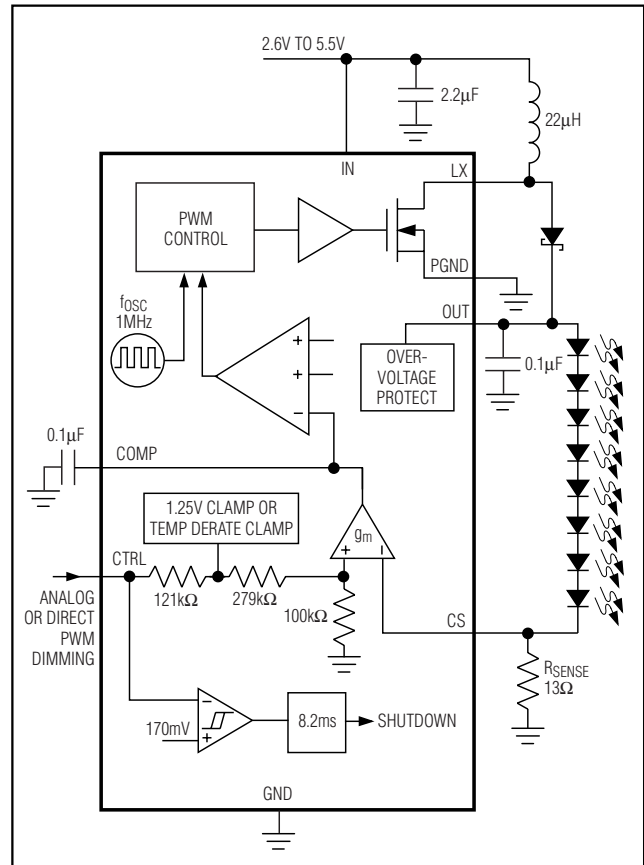

Figure 1. Functional Diagram and Typical Application Circuit
**Note 2:**  $V_D$  is the forward-voltage drop of the Schottky diode in Figure 1.
(Circuit of Figure 1,  $V_{IN} = 3.6V$ ,  $I_{LED} = 25mA$ ,  $L = 22\mu H$ ,  $C_{IN} = 2.2\mu F$ ,  $C_{OUT} = 0.1\mu F$ ,  $C_{COMP} = 0.1\mu F$ ,  $R_{SENSE} = 13\Omega$ , 4 LEDs,  $T_A = +25^\circ C$ , unless otherwise noted.)